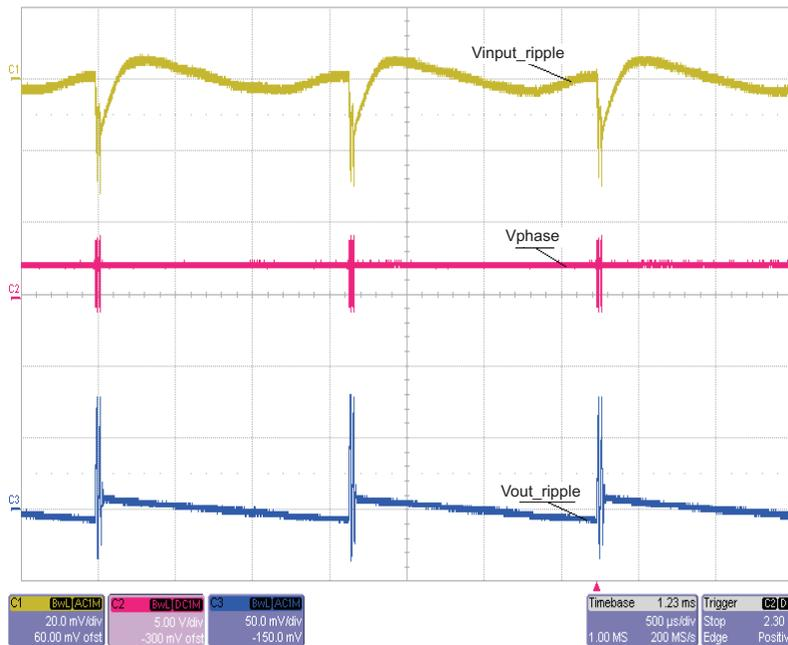

Figure 5. SNOOZE Mode. Vin = 4 V, Vout = 2.5 V, Iout = 3 mA; CH1 = Input Ripple; CH2 = Phase; CH3 = Output Ripple
7. Reduce load to 825  $\Omega$  (~3 mA), and set CH2 to 5 V/div (see Figure 5).